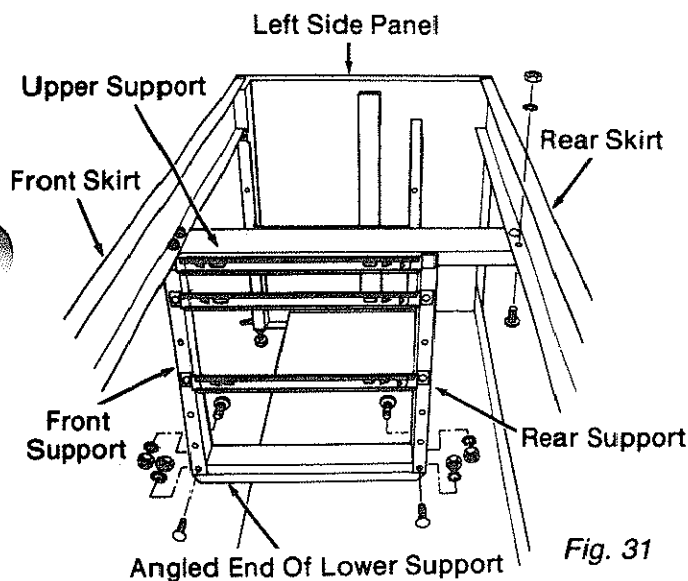

Fig. 31
37. Tilt this whole assembly and slide it into place on the cabinet. Make sure that the *front support* extends between the *front skirt* and the angled end of the *lower support*, and that the *rear support* is inside the cabinet. (Figure 31)
38. Attach the *upper* and *front supports* to the *front skirt* using two truss head bolts, lockwashers, and hex nuts. Make sure the heads of the bolts point down as shown. (Figure 31)
39. Attach the *upper support* to the *rear skirt* using two truss head bolts, lockwashers and hex nuts. Make sure the heads of the bolts point down as shown. (Figure 31)
40. Attach the *front* and *rear supports* to the *lower support* using four truss head bolts, lockwashers, and hex nuts. (Figure 31)